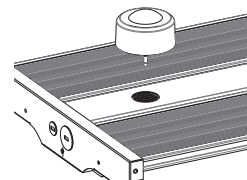

Figure 3
Step 2: Insert sensor into the audio jack and turn the sensor clockwise to tightly secure the sensor. (Figure 3 and Figure 4)